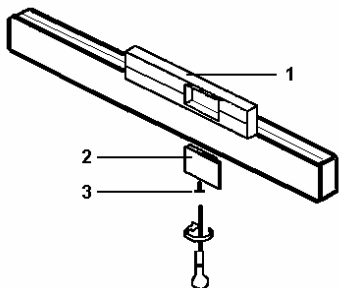

Fig.2
3. Remove the screw (**3**) from the back plate (**1**) and remove the terminal block cover (**2**) (**Fig.2**)
4. Rotate the back plate (**1**) backwards through 90°(**Fig.2**)